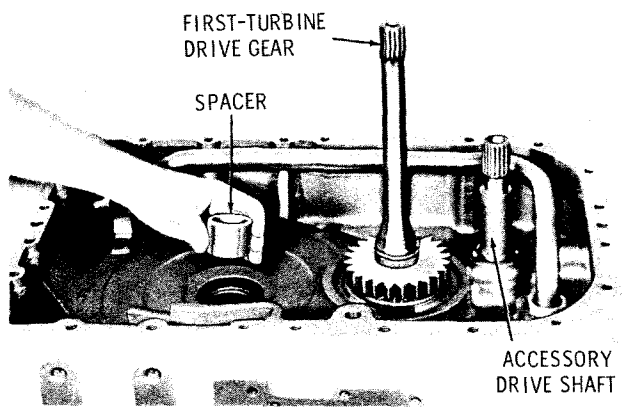

Fig. 7-16. Installing forward and reverse sun gear spacer (-1 model)
(1) Position the transmission, rear downward and block in a level position. Install bearing 9 (B, foldout 6) onto accessory drive shaft 8. Apply Molykote Type G, or equivalent, into the output splines. Install the shaft into the transmission housing (fig. 7-16).
(2) Install nut 3 (B, foldout 7) and seal onto the upper end of suction tube 2. Install the tube into the housing. Install one 3/8-16 x 5/8-inch, self-locking bolt 1 to secure the suction tube to the housing, but do not tighten at this time. Tighten the nut 3 to 120 to 150 pound feet torque. Tighten the bolt to 36 to 43 pound feet torque.
(3) Install first-turbine drive gear and bearing as a unit (fig. 7-16).
(4) Install the forward and reverse sun gear spacer (fig. 7-16).